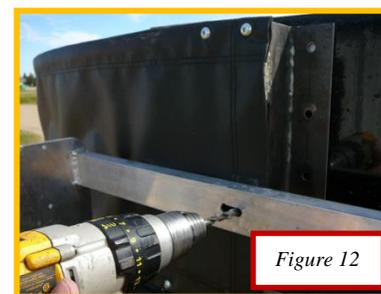

Figure 12
Step 4: Rear Rolltube Assembly Installation (See Figure 12)